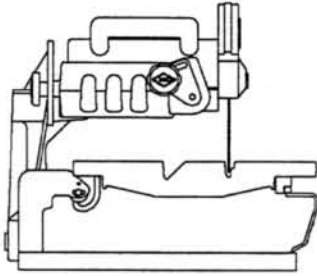

Fig.18
2. Raise or lower the cutting head assembly to position the blade into the slot 1/4" (6.35mm) below the top surface of the conveyor cart. (Fig. 18)